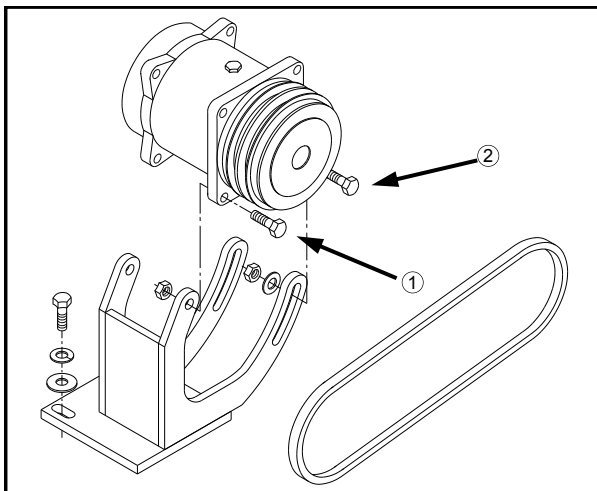

FIG 7.55
To tighten air conditioner compressor belt, loosen the two pivot bolts (fig. 7.55, item 1) and the two slide bolts (fig. 7.55, item 2). Using a suitable prying tool, adjust tension on belt to desired tautness. While maintaining tension, re-tighten all four bolts. Inspect belt every 250 hours.